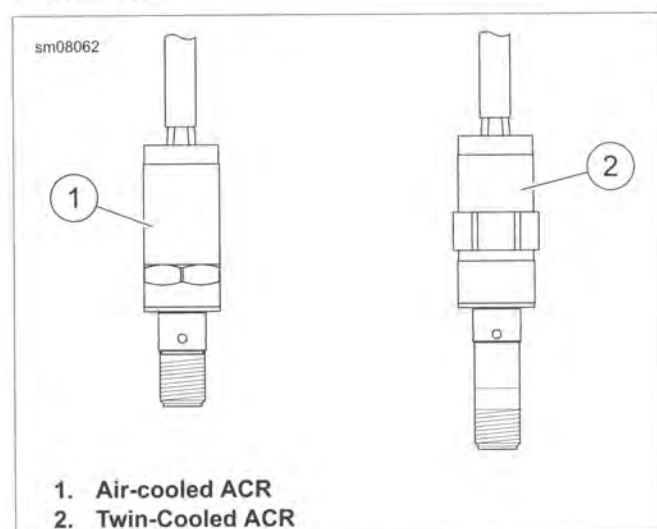

Figure 7-56. ACR Solenoids
- See Figure 7-56. The tip of ACR solenoids for Twin-Cooled engines are approximately 0.500 in (13 mm) longer than those for air-cooled engines. Twin-Cooled ACR's will contact the pistons of an air-cooled engine.